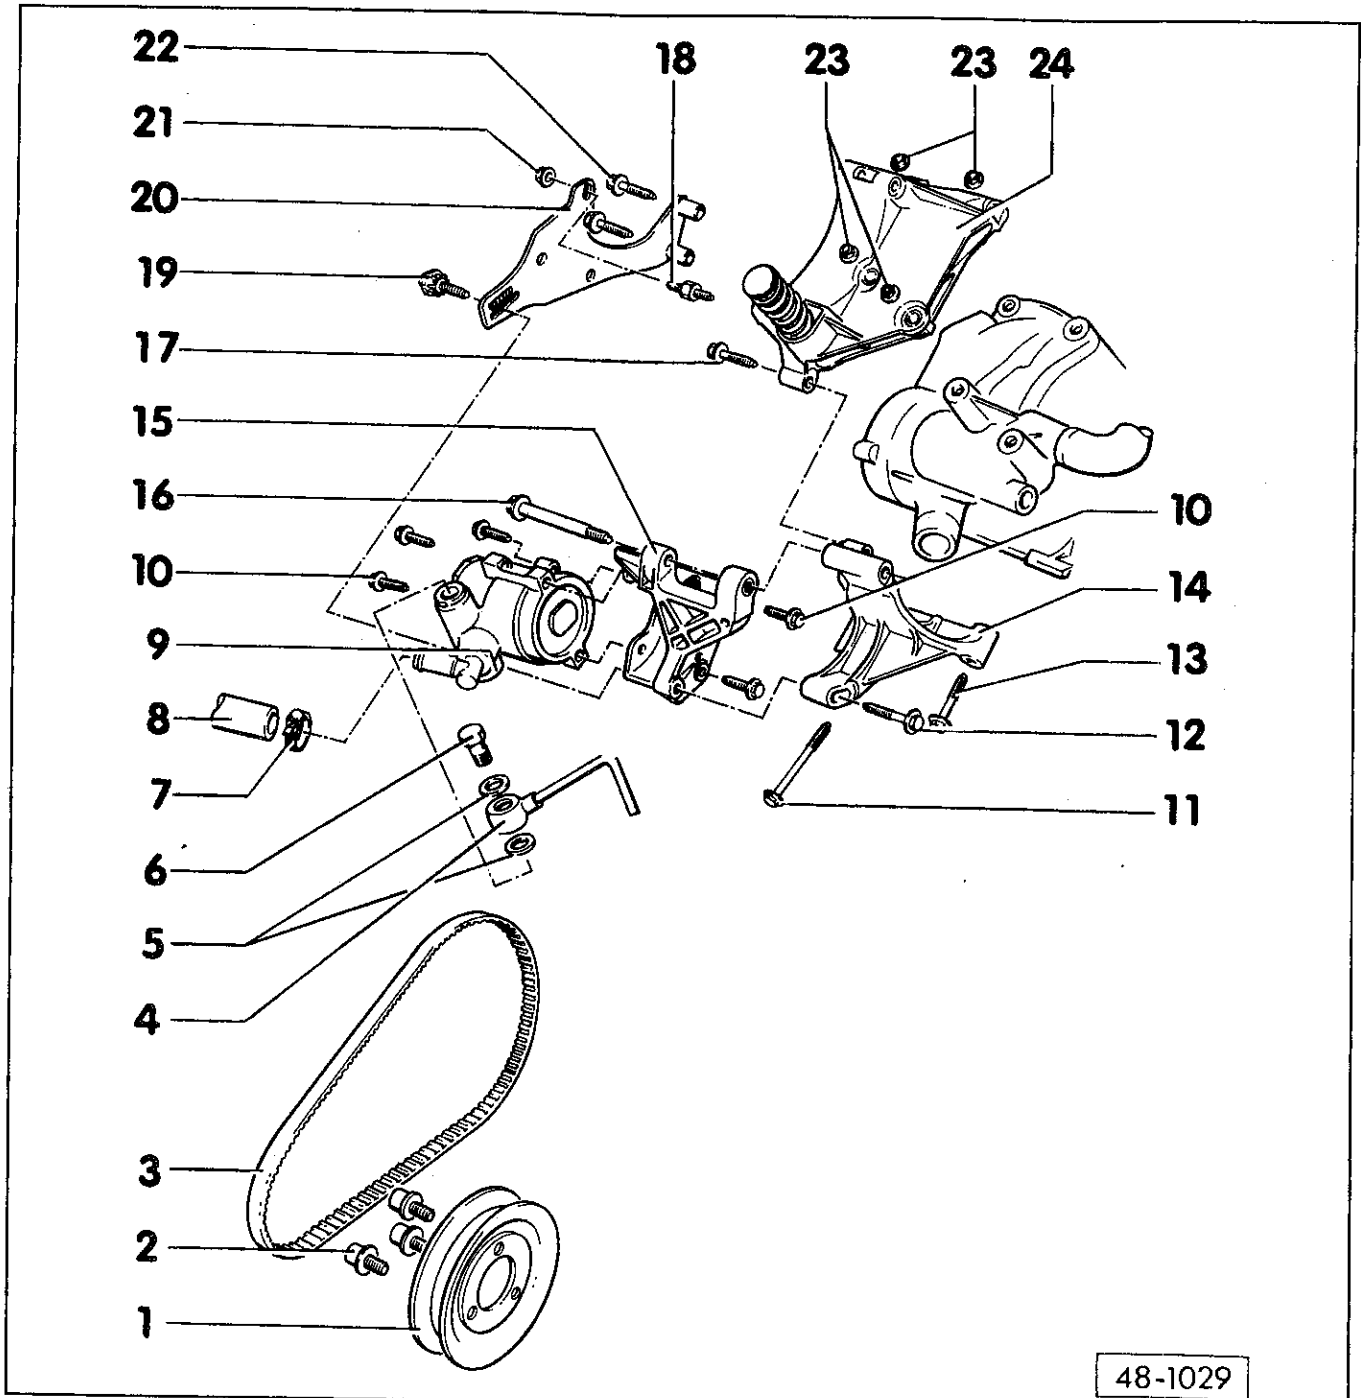

Fig. 18. Power steering pump assembly used on cars with 4-cylinder engines.
Fig. 18 shows an exploded view of the power steering pump and related mounting hardware used on cars with 4-cylinder engines. Be sure to bleed the pump before starting the engine.
6. Install pump adjusting bracket. Use Fig. 18 for tightening torques.
If replacing the pump, transfer the pump pulley and brackets to the new pump. Refer to Fig. 18 for tightening torques.
- Refer to Fig. 18 for tightening torques.